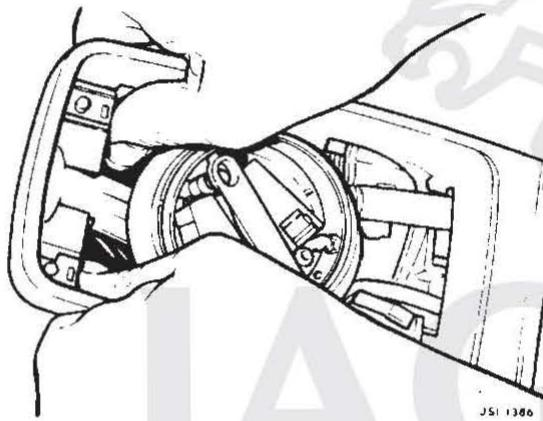

FIG 3
3. Using a narrow-bladed screwdriver, release the chromed finisher mounting clips (Fig 3). Prise the finisher free using the thumbs (Fig.4).
6. Prior to refitting the chromed finisher, the spring retaining clips (Fig 3, Part No. JLM 2235) should be renewed.